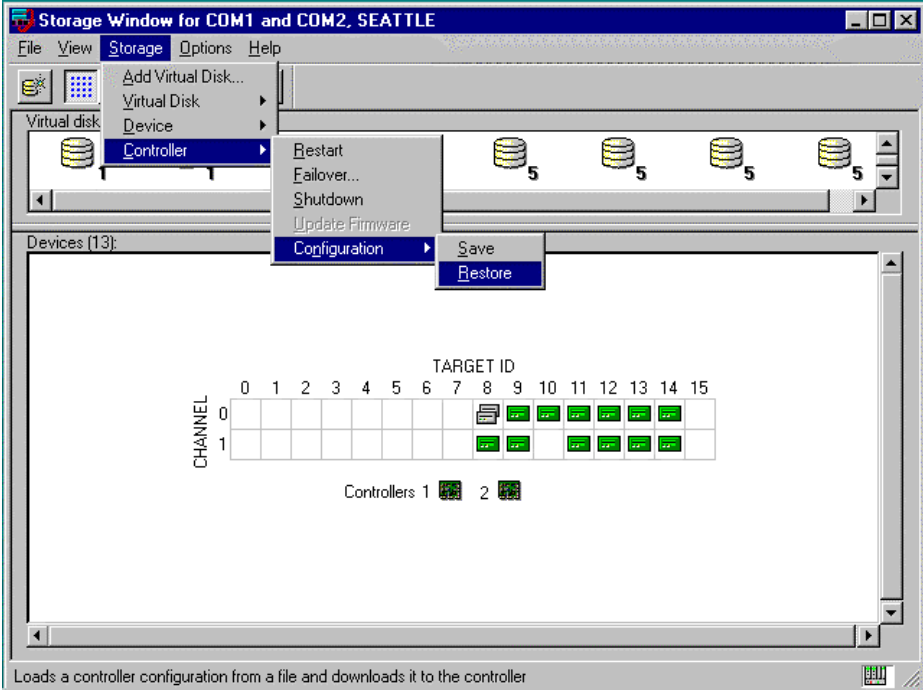

Figure 1-9. Restoring configuration to new controller
- 3. From the Controller pull-down menu, select **Configuration**, and then **Restore** (Figure 1-9).